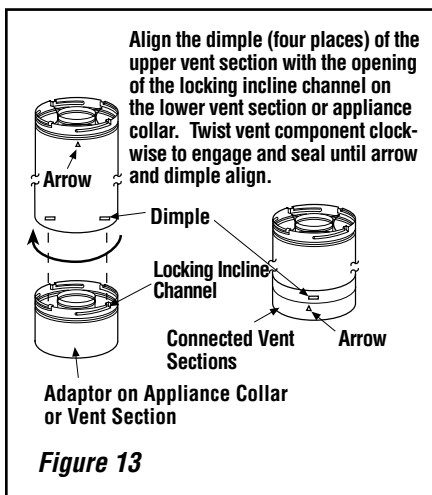

Figure 13
B. Attach adaptor (with probe) to appliance collar. Secure Vent™ SV4.5 direct-vent system components are unitized concentric pipe components featuring positive twist lock connections (*see Figure 13*).
To attach a vent component to the adaptor on appliance collar, align the dimpled end over the adaptor collar, adjusting the radial alignment until the four locking dimples are aligned with the inlet of the four inclined channels on the collar (*refer to Figure 13*). Push the vent component against the collar until it fully engages, then twist the component clockwise, running the dimples down and along the incline channels until they seat at the end of the channels.
Push the vent component against the previous section until it fully engages, then twist the component clockwise running the dimples down and along the incline channels until they seat at the end of the channels. **This seating position is indicated by the alignment of the arrow and dimple as shown in Figure 13.**
F. Change vent direction to horizontal/inclined run - At transition from or to a horizontal/inclined run, install the SV4.5 E45 and SV4.5 E90 elbows in the same manner as the straight vent sections. The elbows feature a twist section to allow them to be routed about the center axis of their initial collar section to align with the required direction of the next vent run element. **Twist elbow sections in a clockwise direction only so as to avoid the possibility of unlocking any of the previously connected vent sections (see Figures 13 and 15).**
Secure Vent™ SV4.5 direct-vent system components are unitized concentric pipe components featuring positive twist lock connection, (refer to **Figure 13 on Page 14**). All of the appliances covered in this document are fitted with collars having locking inclined channels. The dimpled end of the vent components fit over the appliance collar to create the positive twist lock connection.
D. Attach vent components to appliance - To attach a vent component to the appliance collar, align the dimpled end over the collar, adjusting the radial alignment until the four locking dimples are aligned with the inlets of the four incline channels on the collar (refer to **Figure 13 on Page 14**).
E. Attach vent components to each other - Other vent sections may be added to the previously installed section in accordance with the requirements of the vent tables. To add another vent component to a length of vent run, align the dimpled end of the component over the inclined channel end of the previously installed section, adjusting the radial alignment until the four locking dimples are aligned with the inlets of the four incline channels of the previous section. Push the vent component against the previous section until it fully engages, then twist the component clockwise running the dimples down and along the incline channels until they seat at the end of the channels. **This seating position is indicated by the alignment of the arrow and dimple as shown in Figure 13 on Page 14.**
H. Change vent direction - At transition from or to a horizontal/inclined run, install the SV4.5E45 and SV4.5E90 elbows in the same manner as the straight vent sections. The elbows feature a twist section to allow them to be routed about the center axis of their initial collar section to align with the required direction of the next vent run element. **Twist elbow sections in a clockwise direction only so as to avoid the possibility of unlocking any of the previously connected vent sections (see Figure 13 on Page 14).**